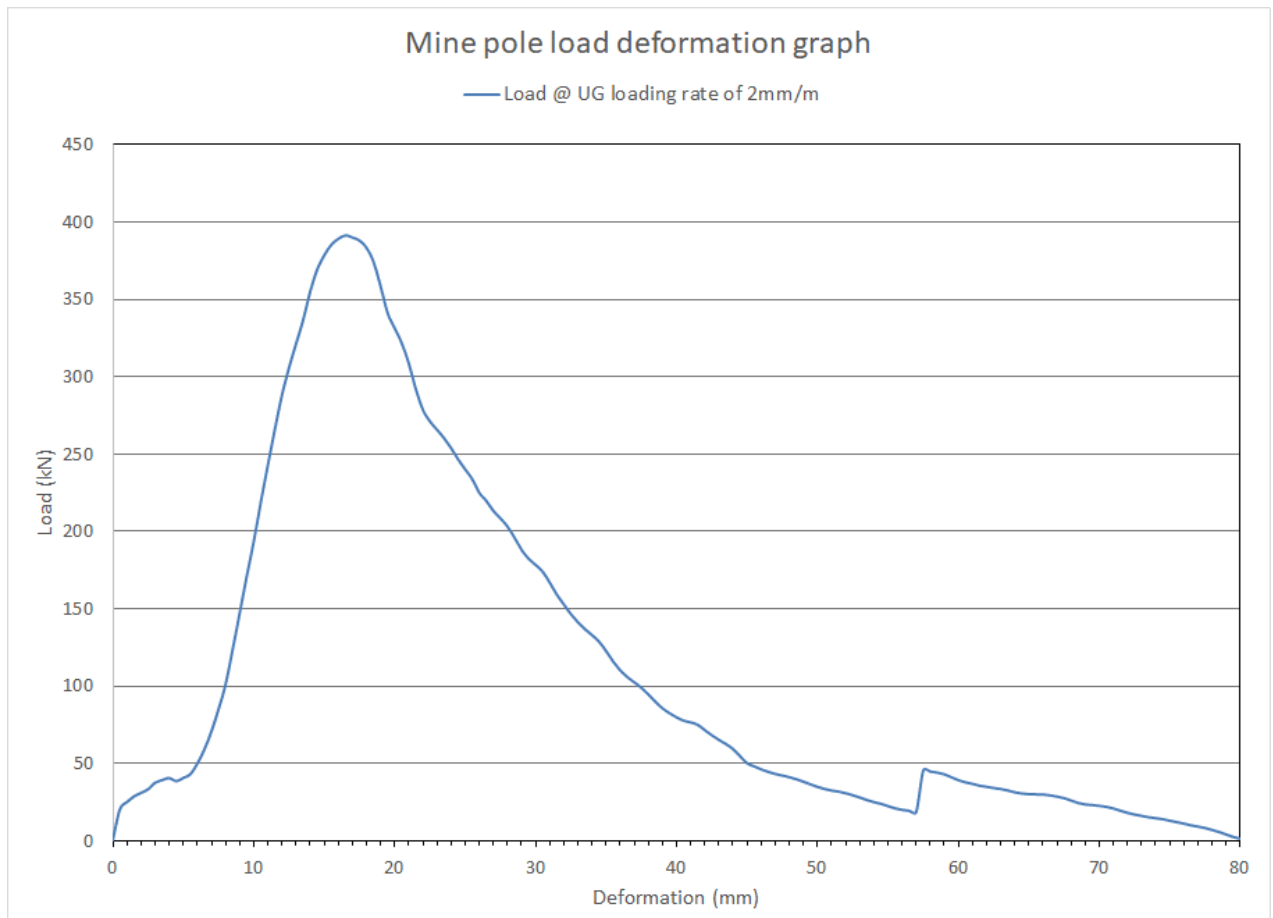

Figure 3 Timber mine pole load-deformation curve
- 3.1 A stope is supported with timber mine poles with a load/deformation performance graph as shown in figure 3 in Appendix A. The mine standard requires the elongates to be installed at a spacing of 1.5 m on dip x 2.0 m on strike centre to centre. Given a closure rate of 2 mm per metre face advance and a support resistance criterion of 36.5 kN/m², determine whether the support resistance criterion is met at the sweepings line 15 m from the face if the elongates are installed 2m from the face. What changes to the support standard would you recommend, if any? (5)
- 3.2 Using figure 3 in Appendix A, calculate the crude estimate of the energy that would have been absorbed by the timber mine pole at the sweepings line 15 m from the face if the elongates are installed 2m from the face. (5)